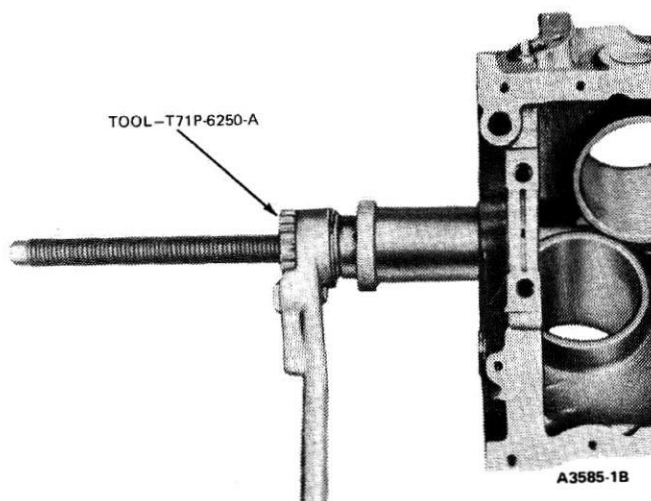
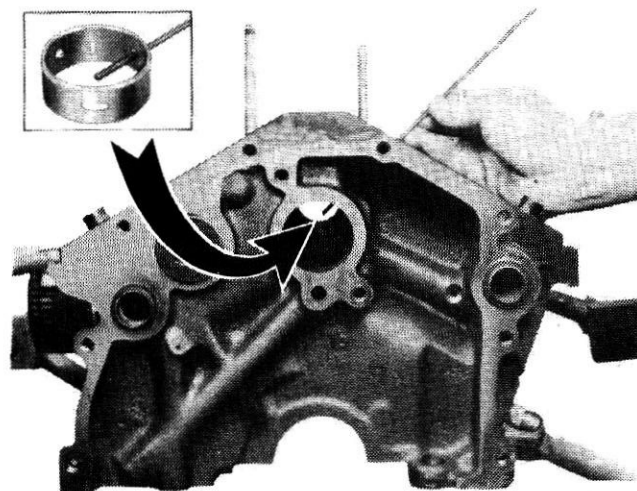

FIG. 45 Typical Camshaft Bearing Replacement
FIG. 46 Checking Oil Hole Alignment—Nos. 2 and 3 Camshaft Bearings
2. Remove the camshaft bearings with the tool shown in Fig. 45.
1. Position the new bearings at the bearing bores, and press them in place with the tools shown in Fig. 45. Be sure to center the pulling plate and puller screw to avoid damage to the bearing. **Failure to use the correct expanding collet can cause severe bearing damage.** Align the oil holes in the bearings with the oil holes in the cylinder block when the bearings are installed. Check oil hole alignment of Nos. 2 and 3 bearings with a welding rod of slightly smaller diameter than the oil holes. Insert the rod into the oil passage (Fig. 46). The rod will pass into the camshaft bore when the holes are properly aligned.